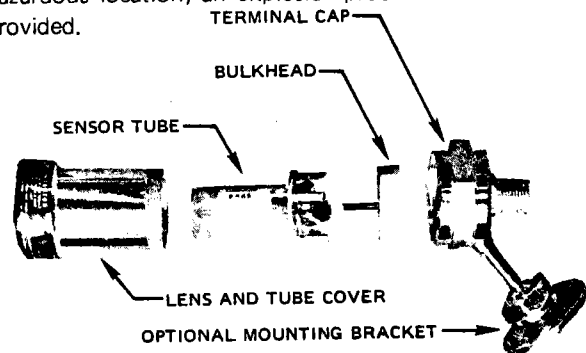

Figure 16—Detector Housing.
2. Remove the detector housing by turning the housing cover counterclockwise. See Figure 16 for example of detector housing.